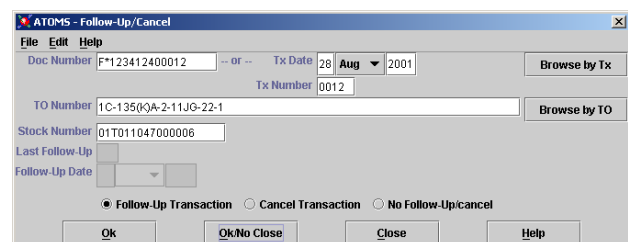

Figure 5-6. Follow-Up Window
- 1) From the splash screen, select **Order, Follow-Up/Cancel**. The Follow-Up/Cancel window appears (Figure 5-6).
- 1) From the splash screen, select **Order, Follow-Up/Cancel**. The **Follow-Up/Cancel** window appears (Figure 5-6).